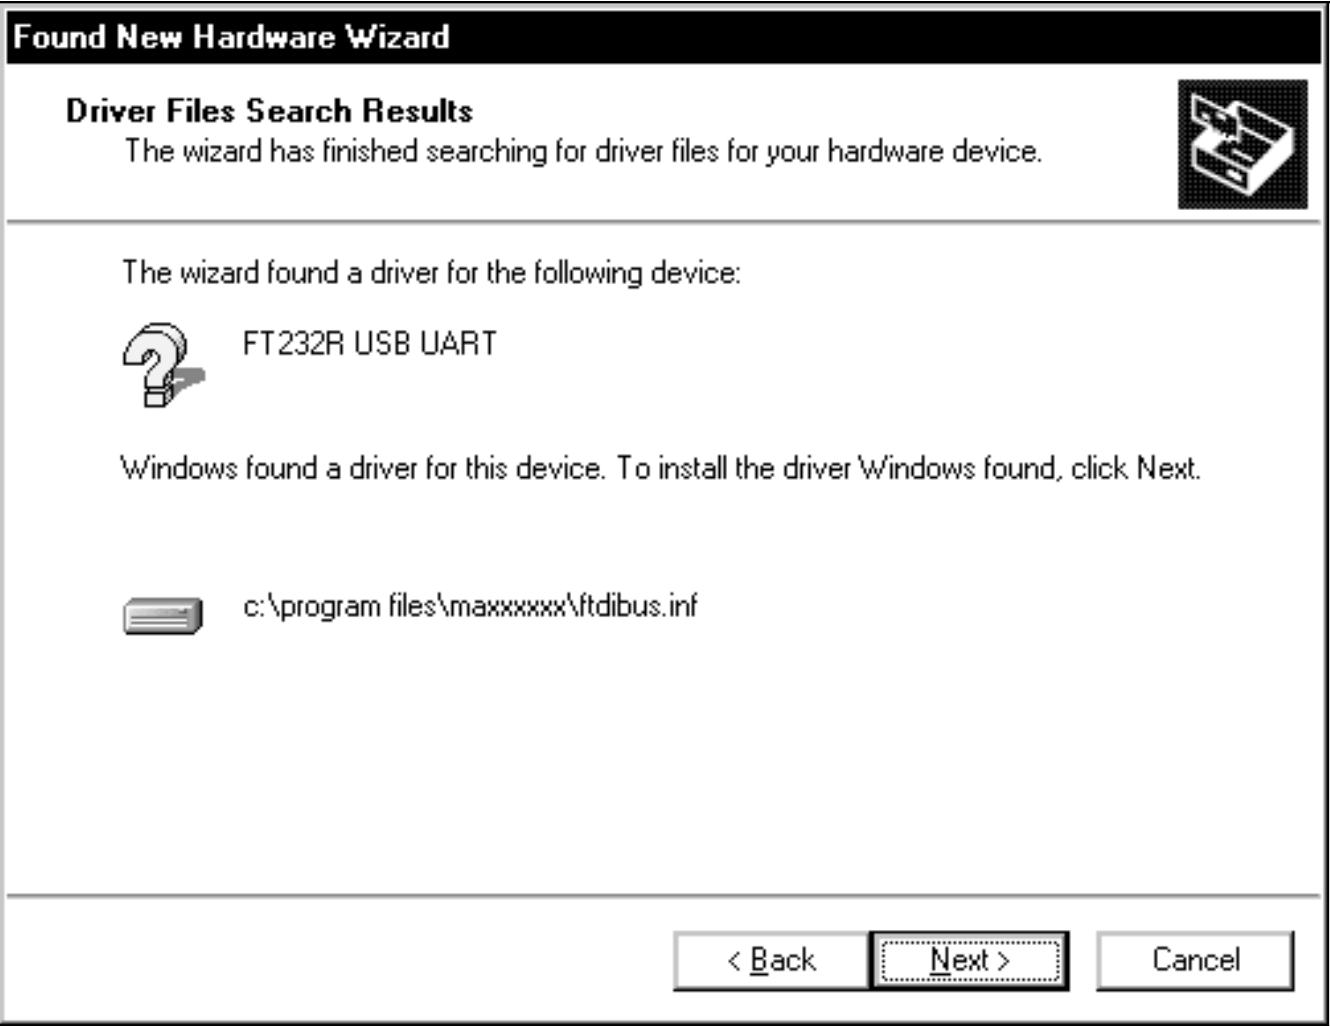

Figure 14. Windows 2000: **Found New Hardware Wizard | Driver Files Search Results** Window
- The **Found New Hardware Wizard | Driver Files Search Results** window is shown in Figure 14. Press the **Next** button after the wizard finds the driver.